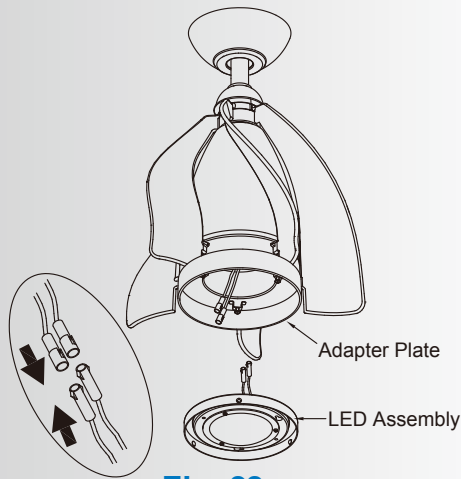

Fig. 22
Step 1. Remove 1 of the 3 screws from the adapter plate and loosen the other 2 screws (do not remove). (Fig. 22)
Step 2. Hold the LED assembly close to the adapter plate and connect the WHITE wires from the adapter plate and fan by pushing the connectors together. Follow the same procedure with the BLACK wires. (Fig. 22)